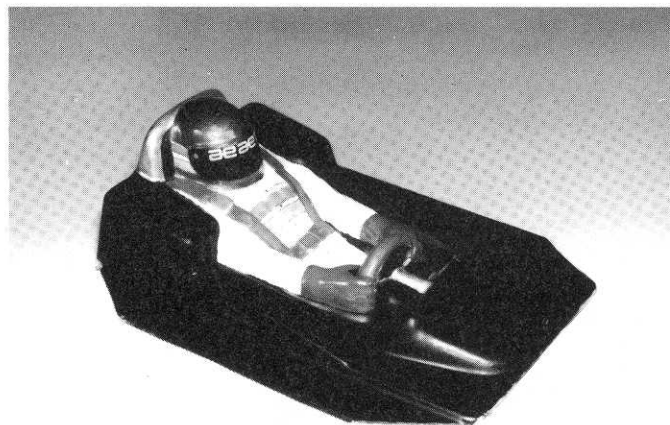

Fig. 130
□ **Fig. 130** The driver can be painted to look quite life-like. If you paint the helmet and visor on the inside, they will have a glossy appearance. Then if you paint the rest on the outside, it will be very life-like. You can use the small brush on paint bottles available in hobby stores. The driver should be trimmed as shown, then it will slide up into the body, and 2 pieces of tape will hold it in place.